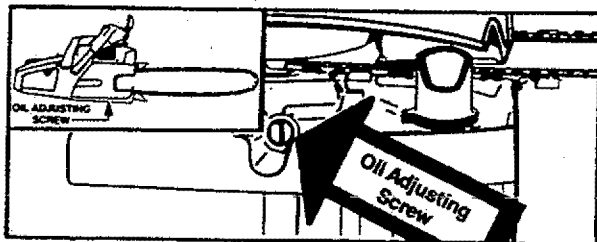

Figure 13
- The adjusting screw is located at the bottom of the saw on the crankcase next to the bar clamp housing and can be adjusted with the screwdriver end of the srench provided with your saw. Figure 13.